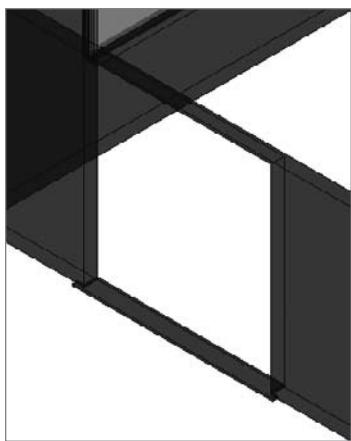

FIGURE 16.49 The view looking at the front of the cabin
1. Click the northeast corner of the ViewCube to display the front of the cabin; then zoom into the front door. Your view should look similar to Figure 16.49.